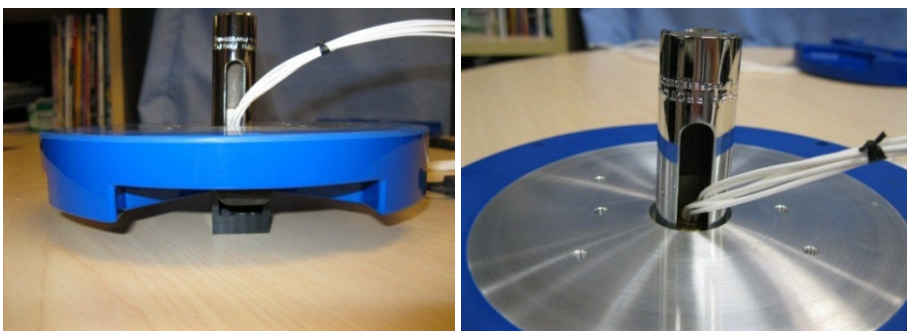

Figure 54. Lock Nut Removal Socket
11. Flip the End-Cap assembly over and insert the slotted socket onto the lock nut. Fit the cable wires into the socket's clearance slot (see Figure 54).